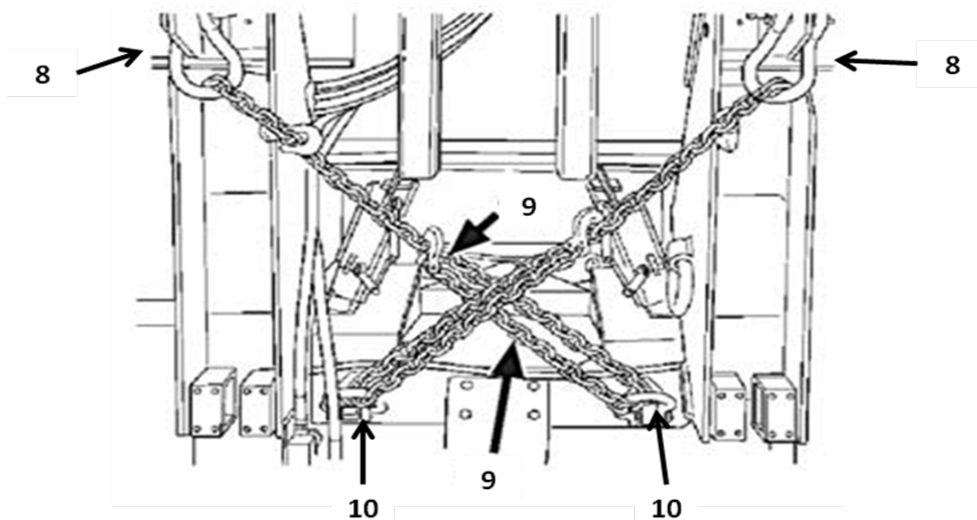
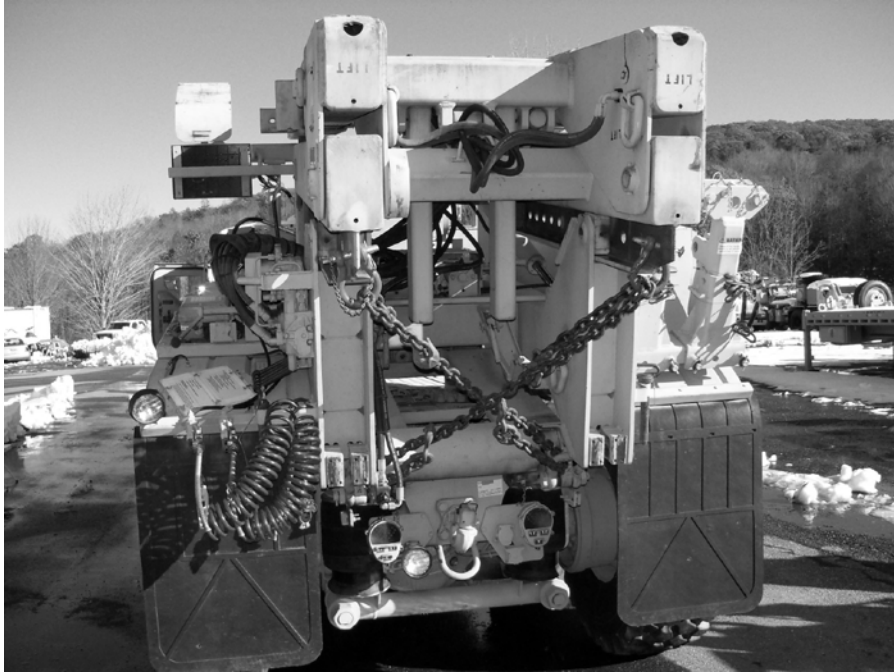

Figure 7- Rear chaining configuration for transport
Figure 8 - Cross Chain complete
9. Re- install left and right safety clevises (8) that were removed in step 2. (figure 7)
10. Install two ½ inch safety chains (9) at rear of prime mover from the safety clevises (8) to the clevises at the rear of the prime mover frame (10). Make both chains equal length removing as much slack as possible by hand. (figure 7)
11. Using valve control levers, MAST RETRACT until safety chains (9) (figure 7) are tight (figure 8).